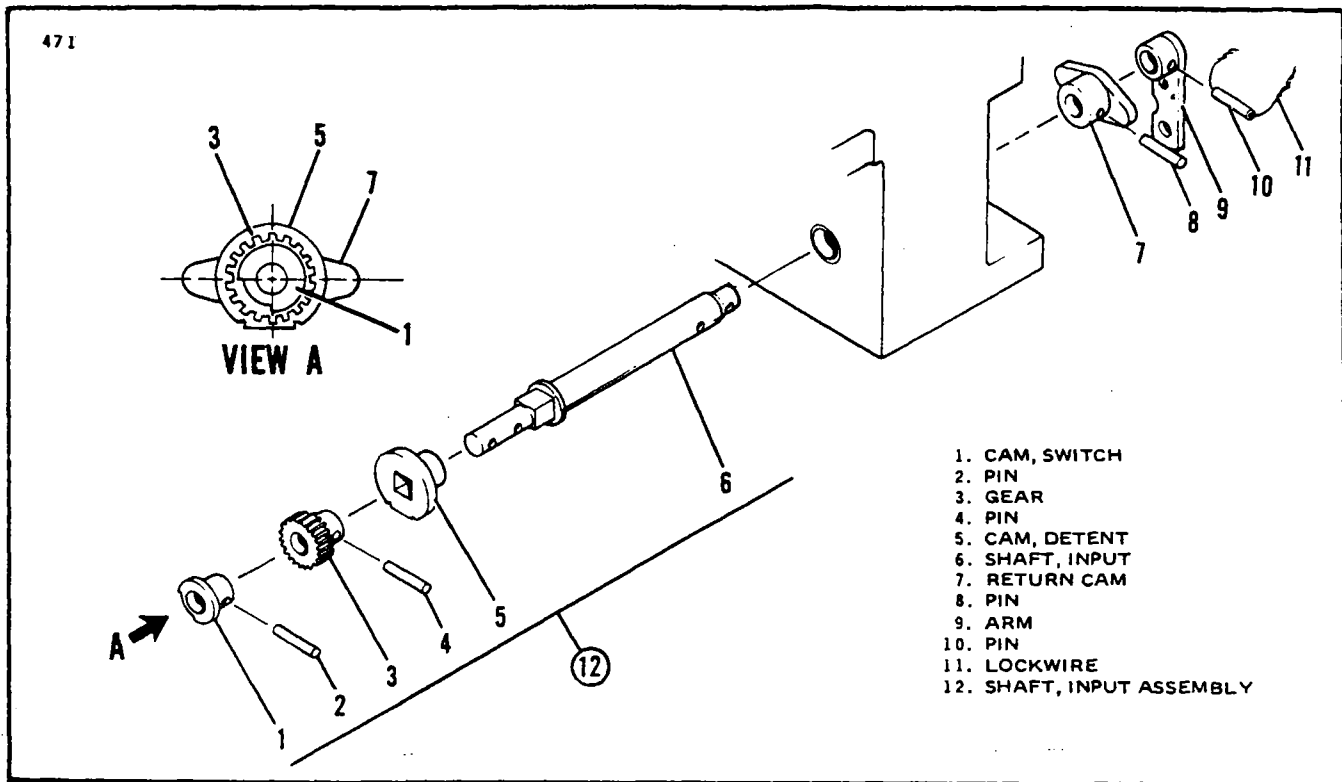
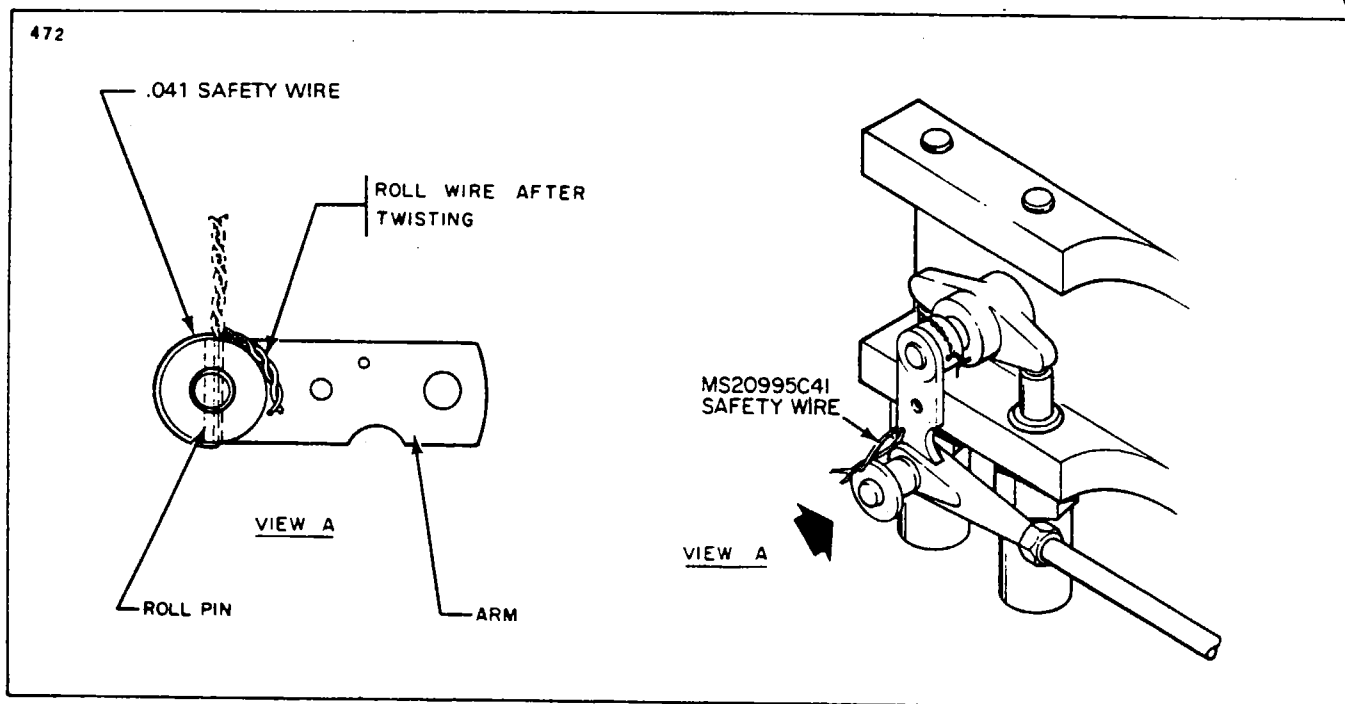

Figure 6-20. Power Pack Handle-Release Mechanism (Wiebel Too!)
Figure 6-21. Safeying Control Arm (Wiebel Tool)
6-69. DISASSEMBLY OF LANDING GEAR HANDLE-RELEASE MECHANISM. (Refer to Figure 6-20.)
6-83. ASSEMBLY OF POWER PACK HANDLE-RELEASE MECHANISM. (Refer to Figure 6-20.)
- a. If the switch cam (1), the gear (3) and the detent cam (5) was removed from the input shaft (6), then the parts must be assembled and indexed as shown in Figure 6-20, View "A."
- b. Lubricate the input shaft (6), slide detent cam (5) and gear (3) into place and secure gear (3) with roll pin (4).
- c. Slide switch cam (1) onto input shaft (6) and secure with roll pin (2). Install assembly into Power Pack body.
- d. Install the return cam (7) and secure with roll pin (8). Check the landing gear shaft for freedom of movement in the Power Pack body. Check for slight end play between the input shaft and the Power Pack body. If shaft binds, remove return cam (7), lap face on return cam boss and reinstall return cam.
- e. Install the Power Pack control arm (9) on the end of the shaft with the arm pointing down. Align the holes between the shaft and the arm assembly and install the roll pin (10). Install .041 safety wire (11) through the roll pin and around half of the arm. Pull the twisted end of the safety wire around the other half of the arm assembly. (Refer to Figure 6-21.)